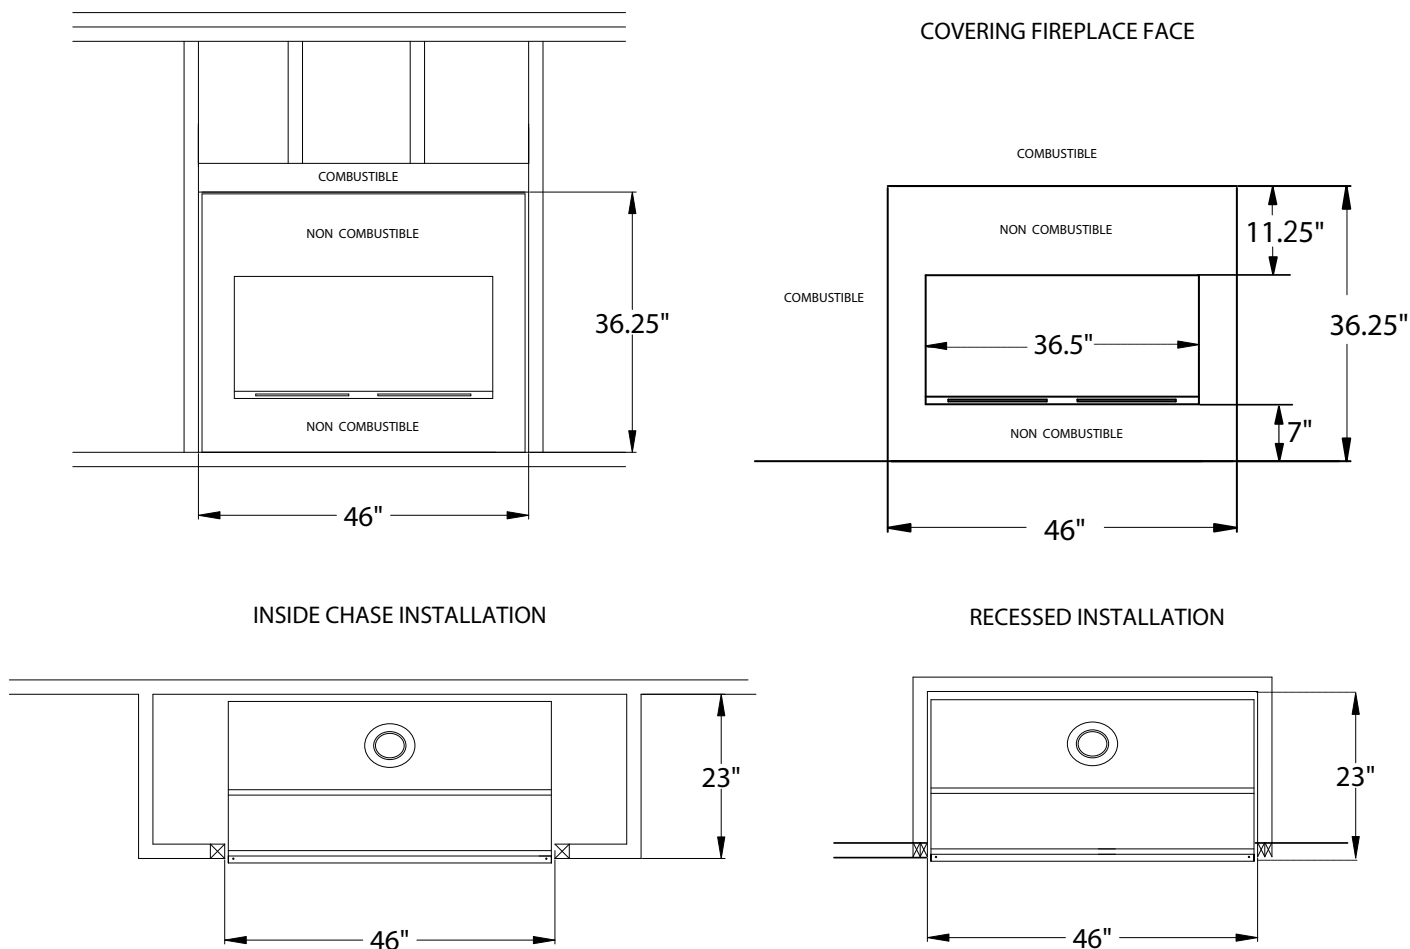
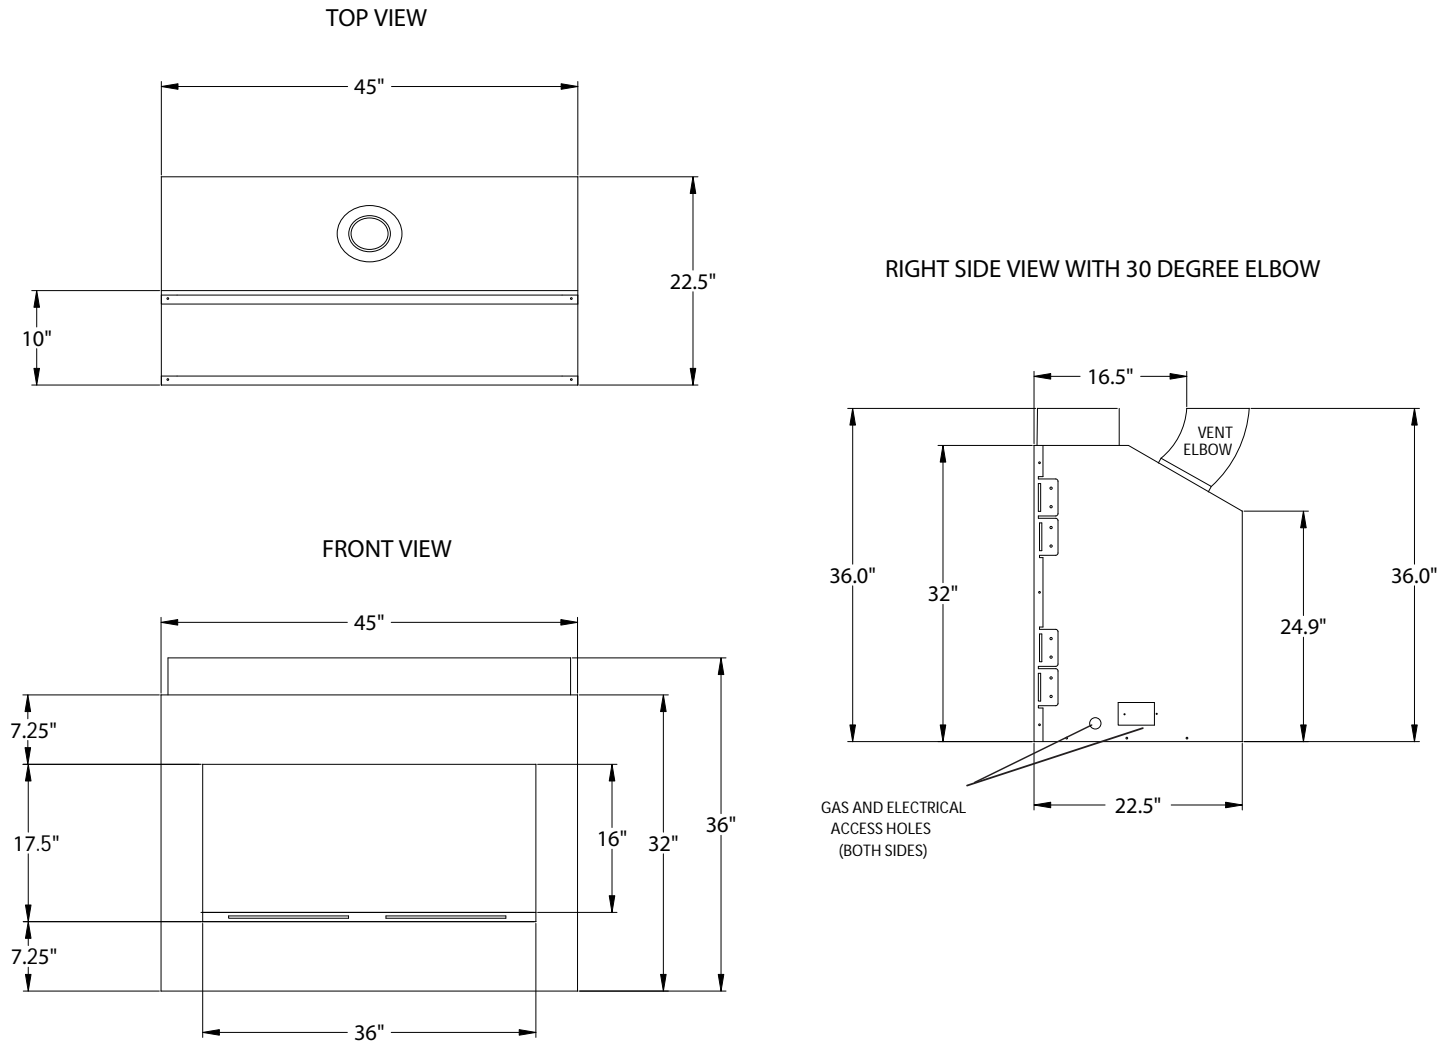

Figure 2 - Framing Dimensions
Figure 3 - Fireplace Dimensions
Firebox framing can be built before or after the appliance is set in place. Construct firebox framing following *Figure 2* and the chart below for your specific installation requirements. See *Figure 3 on Page 8* for firebox dimensions. The framing headers may rest on the top of the firebox standoff.
2. Minimum outside dimensions of the material over the facing are 46" x 36-1/4" (see *Figure 2*).